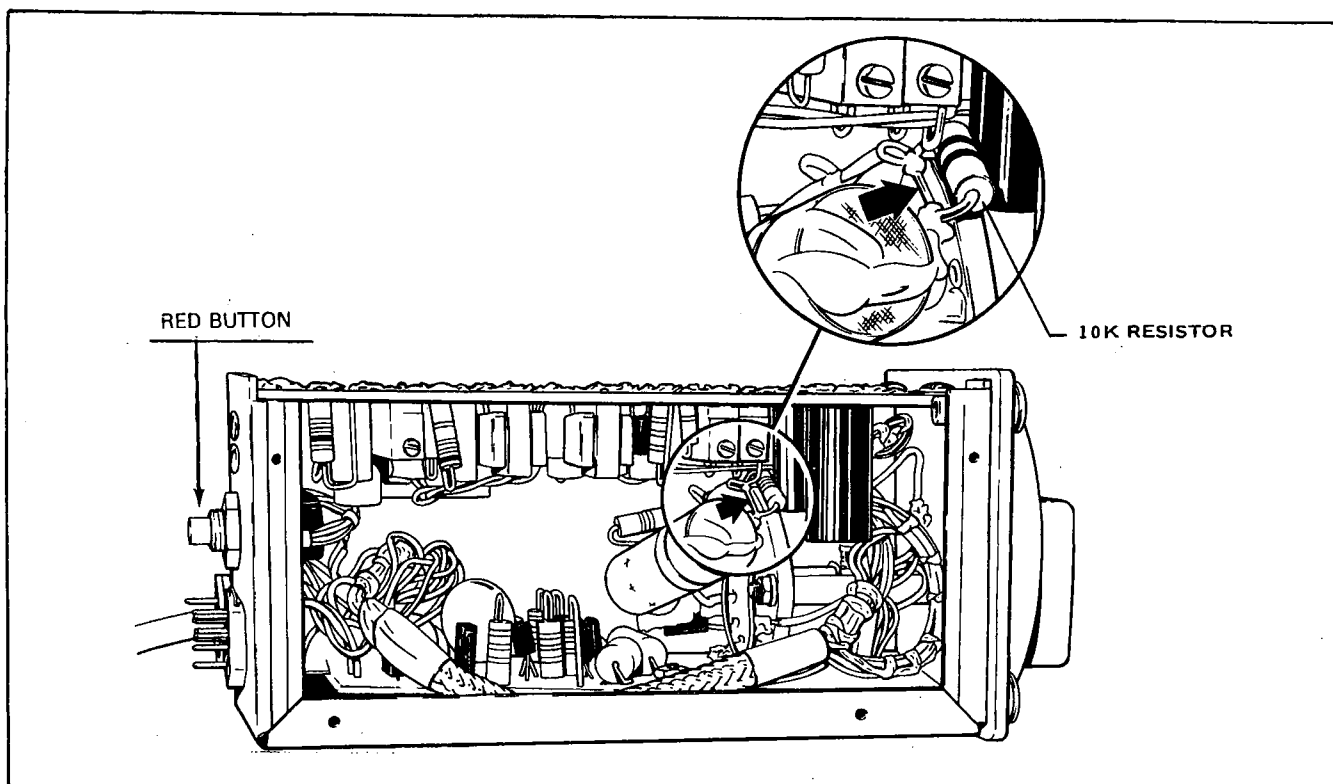

Figure 5-8. Piper Omni/Localizer Coupler Modification Detail
3. Locate clipped jumper across 10K resistor. (Refer to Figure 5-8.)